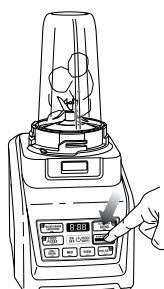

Fig. 4
- 7 Press the power button on, and select the speed or Auto-iQ program that suits your needs. **(Fig. 4)** The Auto-iQ program will stop the appliance automatically at the end of the program.